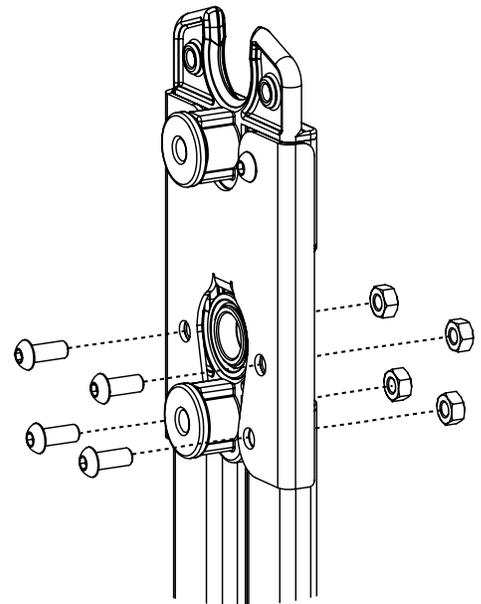

Fig. 2-2
2-2: Fasten (4) M6 x 16mm SBHCS with the 4mm Allen wrench and (4) M6 hex nuts with a 10mm open wrench end from the take up rail bracket (Fig. 2-2).